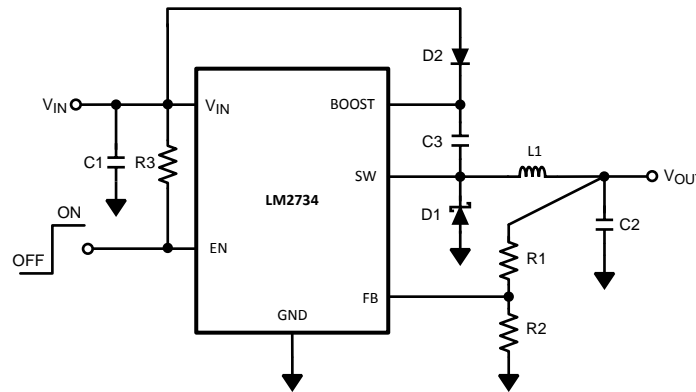

**Figure 31. LM2734X (1.6MHz)
**Table 5. Bill of Materials for Figure 31**